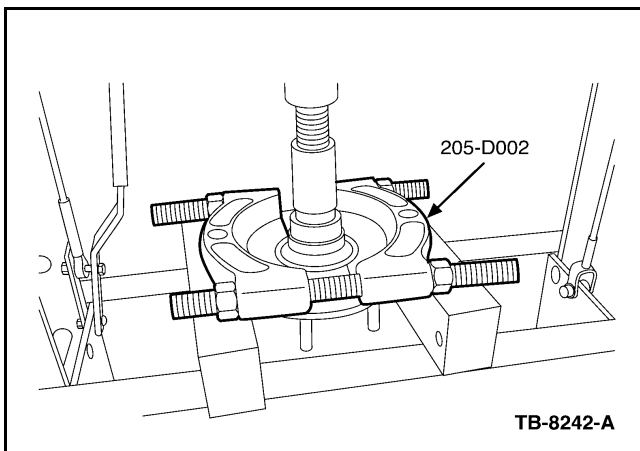

Figure 6 - Article 05-25-8
15. Using Special Tool 205-D002, or equivalent, press the inner wheel bearing race from the wheel hub (Figure 6).